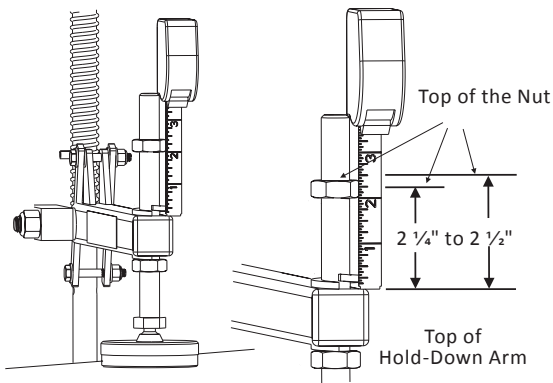

Figure 6-4
- Adjust the top nut, so the top of the nut measures 2 ¼" to 2 ½" above the top of the hold-down arm. Once the measurement has been set, DO NOT adjust the top nut or the stationary nut. *See Figure 6-4.*